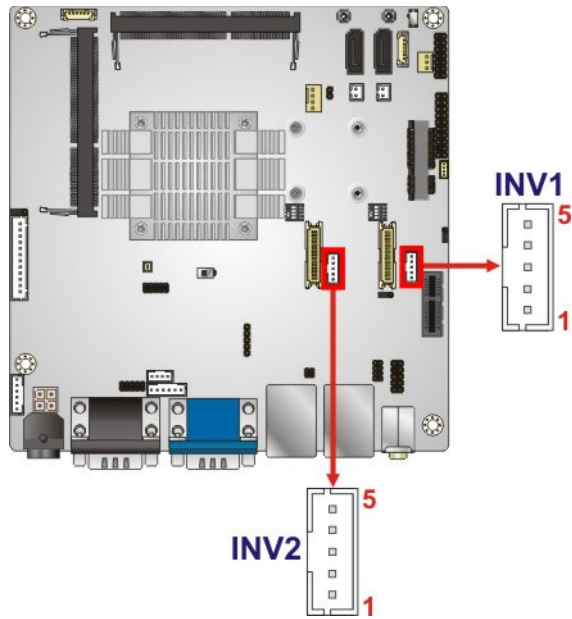

Figure 3-6: Backlight Inverter Connector Locations
- CN Location:** See **Figure 3-6**